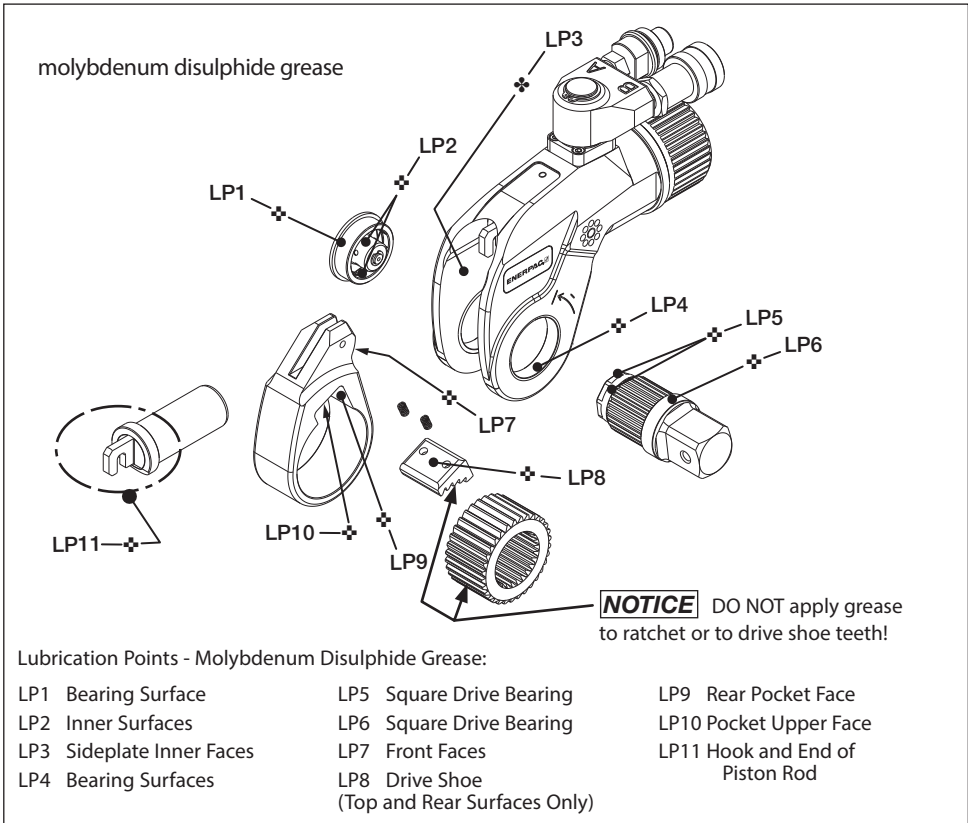

Fig. 19
- Dry all components. Apply a thin coat of molybdenum disulphide grease in the areas shown in Figure 19.